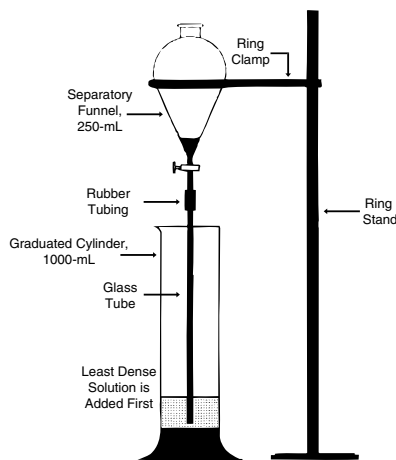

Figure 2.
1. Construct the apparatus according to Figure 2. Be sure to keep the glass tubing very near the bottom of the graduated cylinder during the addition of solution.